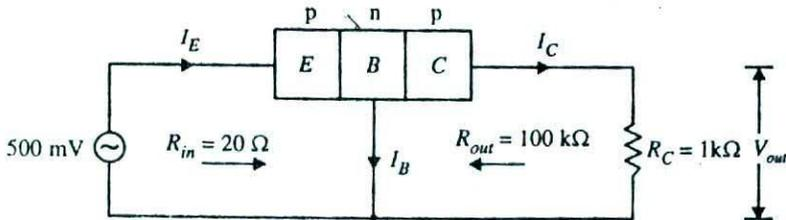

Fig. 10.8
**Solution.** \*\*Fig. 10.8 shows the conditions of the problem. Note that output resistance is very high as compared to input resistance. This is not surprising because input junction (base to emitter) of the transistor is forward biased while the output junction (base to collector) is reverse biased.